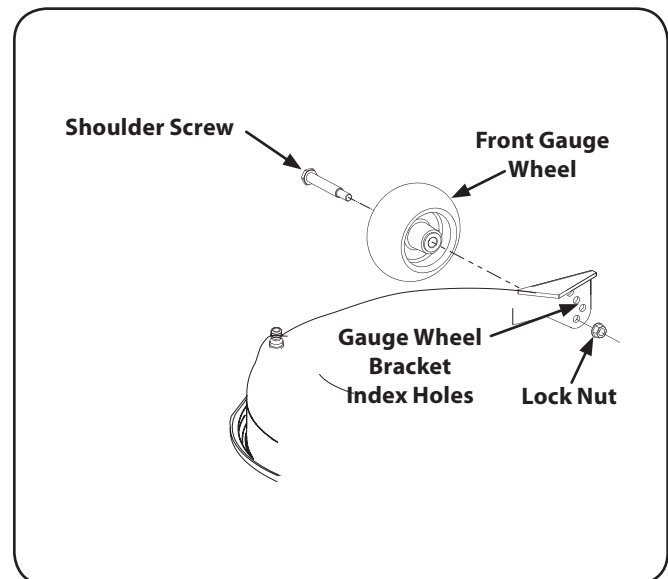

Figure 6-6
2. Remove the lock nut securing one of the front gauge wheel shoulder screws to the deck. Remove the gauge wheel and shoulder screw. Refer to Fig. 6-6.